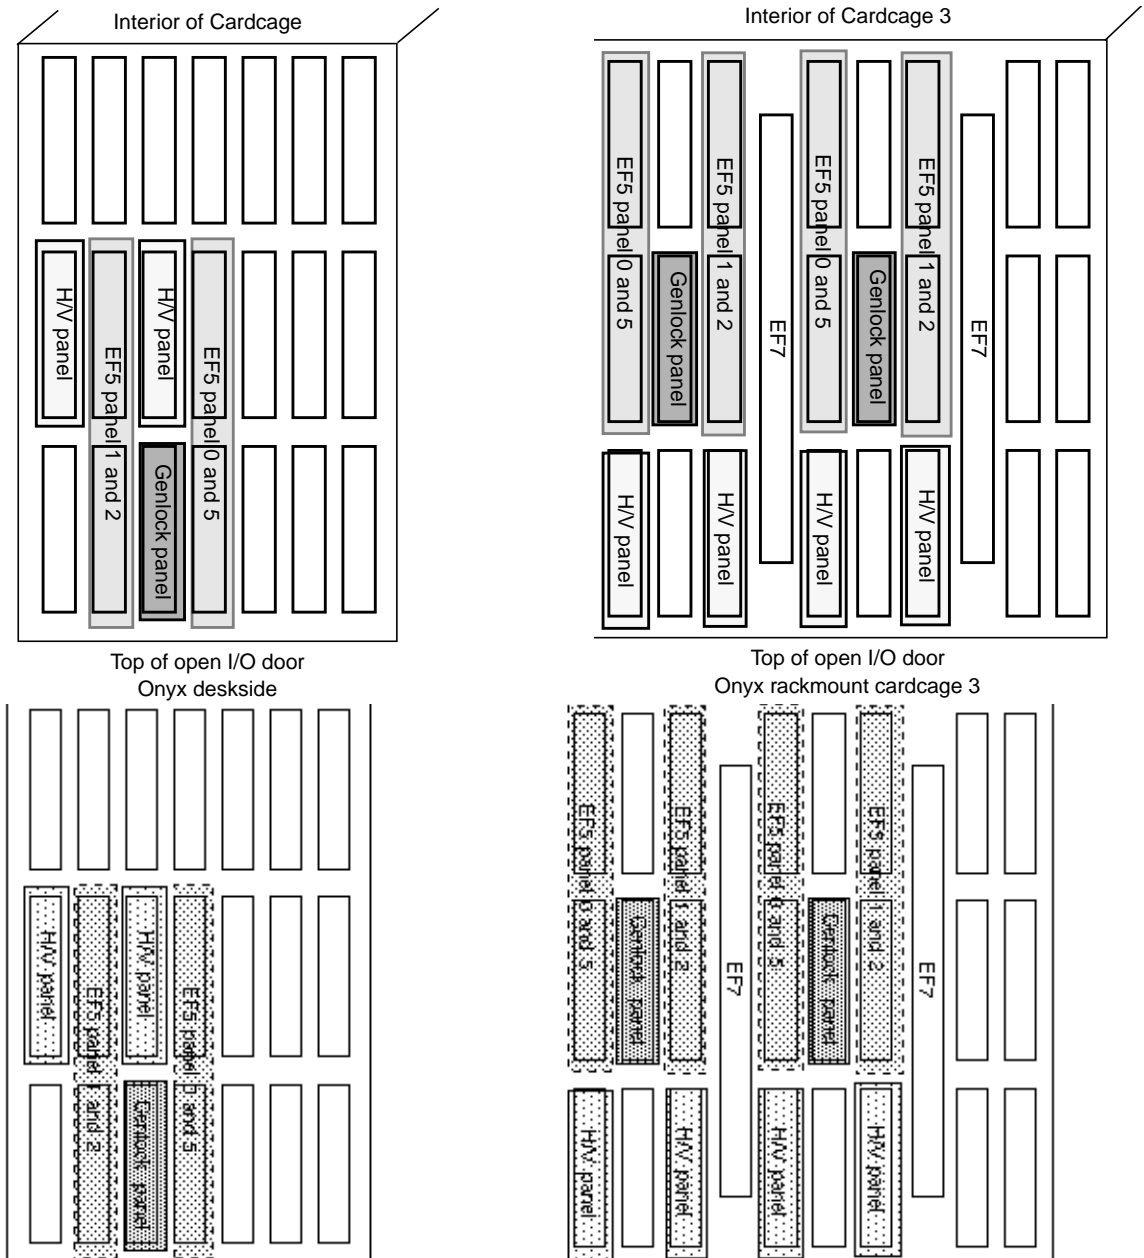
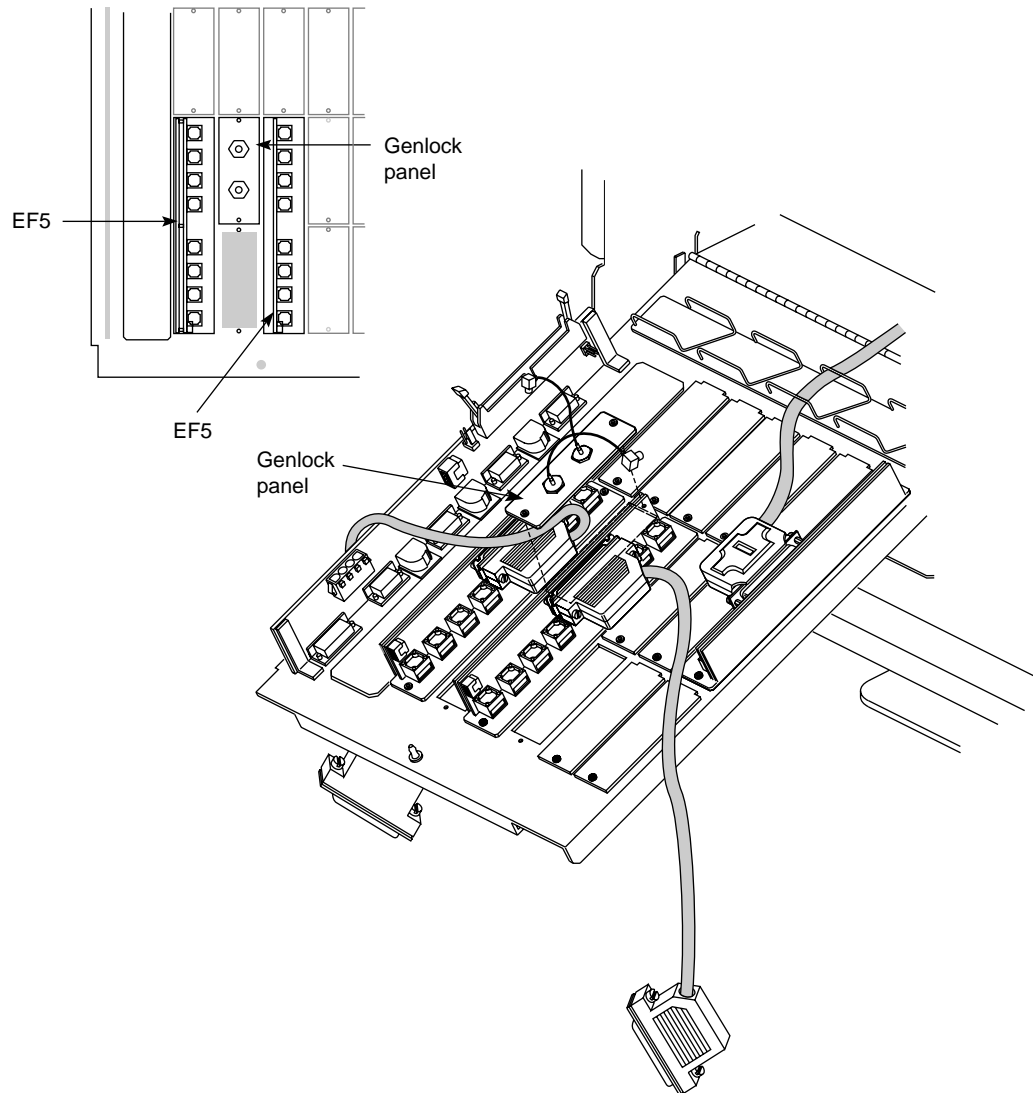

Figure 2-2 Multi-Channel Option Panel Placement in Onyx
Figure 2-6 Positioning the Genlock Panel
Note: In an Onyx deskside system, the EF5 panels must occupy the leftmost slots on the I/O door to allow room for the PB3. In cardcage 3 of an Onyx rackmount, the two EF5 panels for channels 1 and 2 must be installed upside down. Figure 2-2 diagrams this placement.
1. Select the two slots (adjacent lengthwise) for the EF5 0 and 5 panel. These slots are the two leftmost slots from which you have removed slot panels. Refer to Figure 2-2.
Note: If you are installing the MCO in cardcage 3 of an Onyx rackmount chassis, you must orient the EF5 panel for channels 1 and 2 upside down. See Figure 2-2.
1. Position the genlock panel over the middle slot between the EF5 0 and 5 panel and the EF5 1 and 2 panel. Figure 2-6 diagrams this placement on the inside and outside of the I/O door. For an Onyx rackmount chassis, consult Figure 2-2.